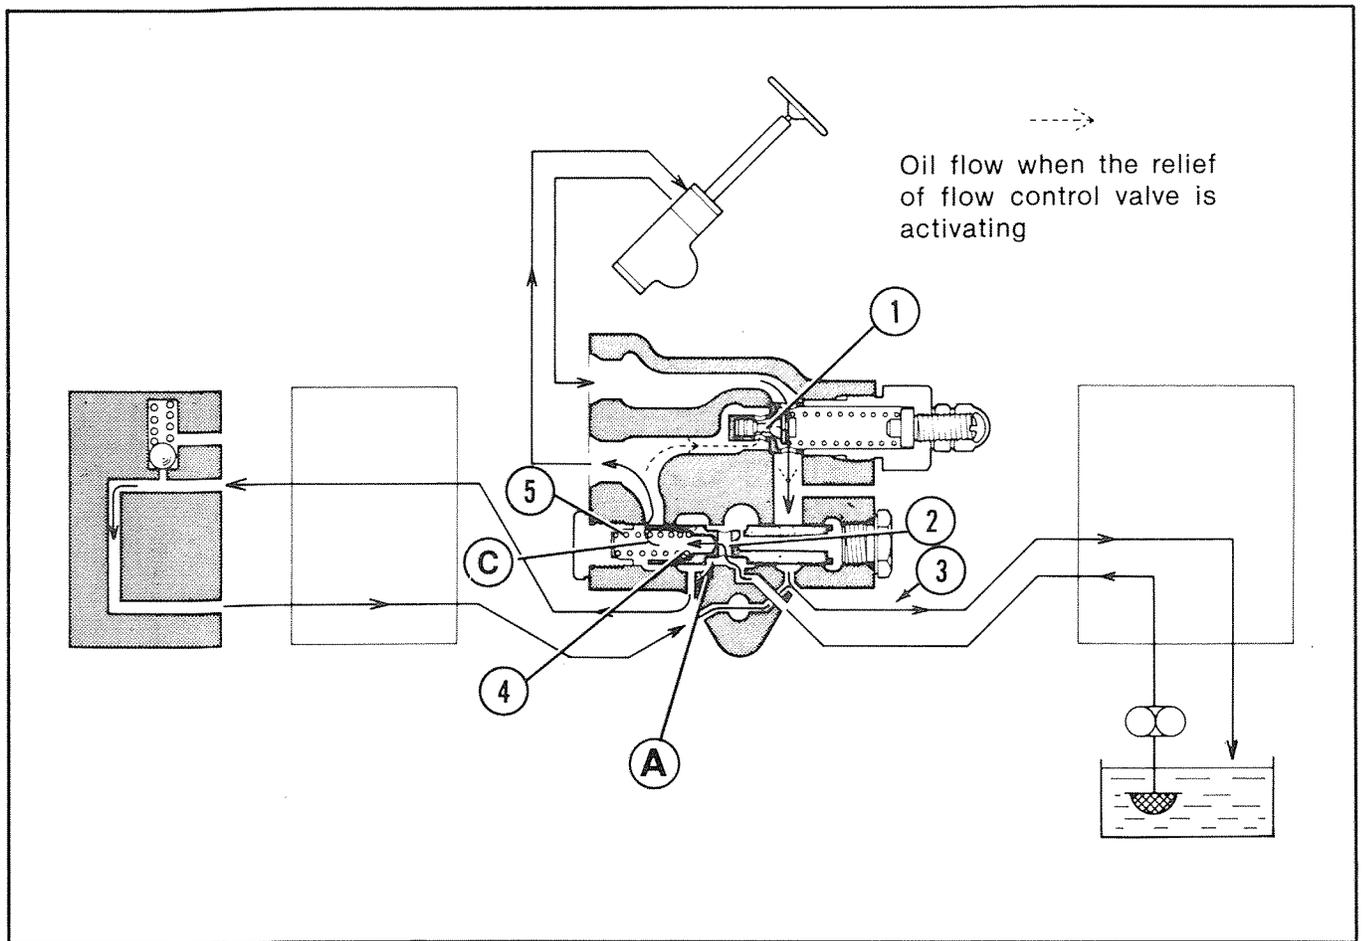

Figure 16
2. Oil flow when the output is greater than the maximum oil flow accepted by the power steering circuit: The force of the oil going through the orifice of the plunger overcomes the resistance of the spring and the plunger moves to the left. This opens passageway A, Figure 16, and the remaining oil